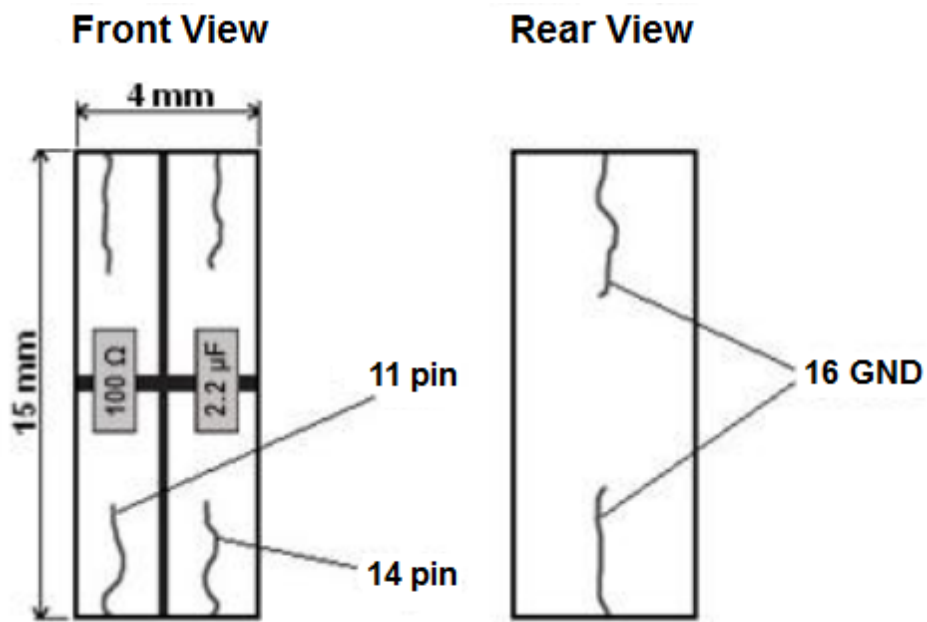

Figure 5 - Ready Printed Circuit Board
1. Mark the blank printed circuit board as in Figure 5. There must be 4 metallized areas that are galvanically isolated from each other. The rear of the board must be fully metallized.
2. Solder planar resistor and capacitor to the board as in Figure 5.